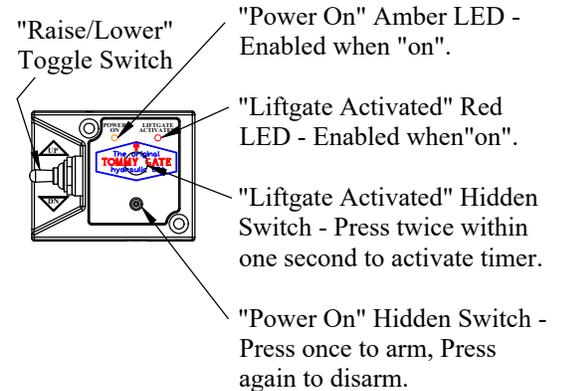

Figure 36: Control Terms.
4. To turn the control power on, press the "POWER ON" hidden switch once, marked with white rings or circles (located below the Tommy Gate logo). You should see the amber LED "POWER ON" light when the control is armed. To disarm the control press the "POWER ON" hidden switch again. Terms used for the control are shown in (Figure 36).